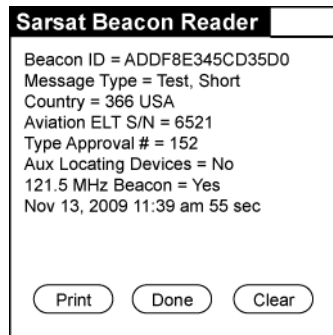

Figure 11 406 MHz Message Example
- 4) Deactivate the ELT and read the test message broadcast at "turn-off". Message examples are shown in Figure 11 406 MHz Message Example.
- b) The example in Figure 11 406 MHz Message Example is an ELT programmed for "User Protocol ELT with Serial Number", with a test Hex ID.